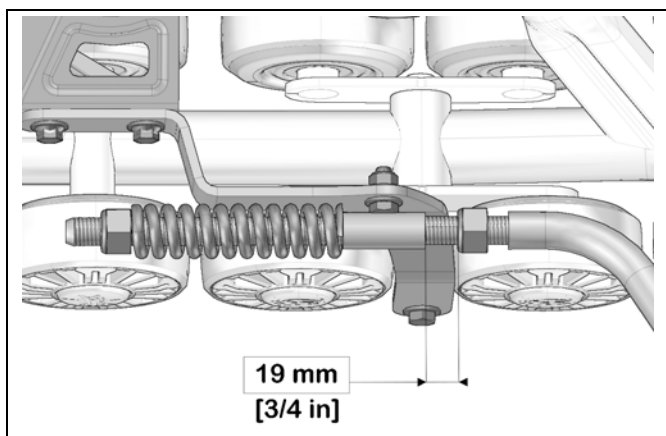

Figure 13
- **IMPORTANT:** Double-check the 19 mm minimum distance between nut and stabilizing arm guide. Re-adjust as needed. See Figure 13.